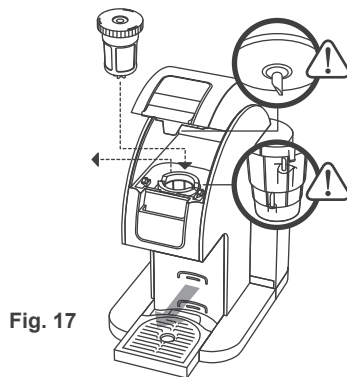
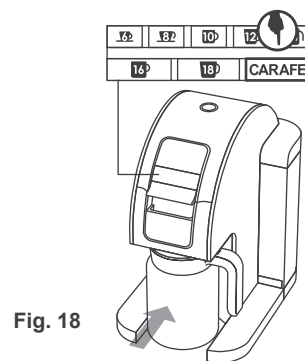

Fig. 17
Fig. 18
4. Open the Cover and remove the Red Cup Holder from the Brewer, and insert the Refill Jumbo Cup in its place. (Fig. 17)
5. Remove the bottom Drip Tray (Fig. 17), and place the Carafe in its place. (Fig. 18)
6. Press the Carafe Button to start brewing. (Fig. 18)